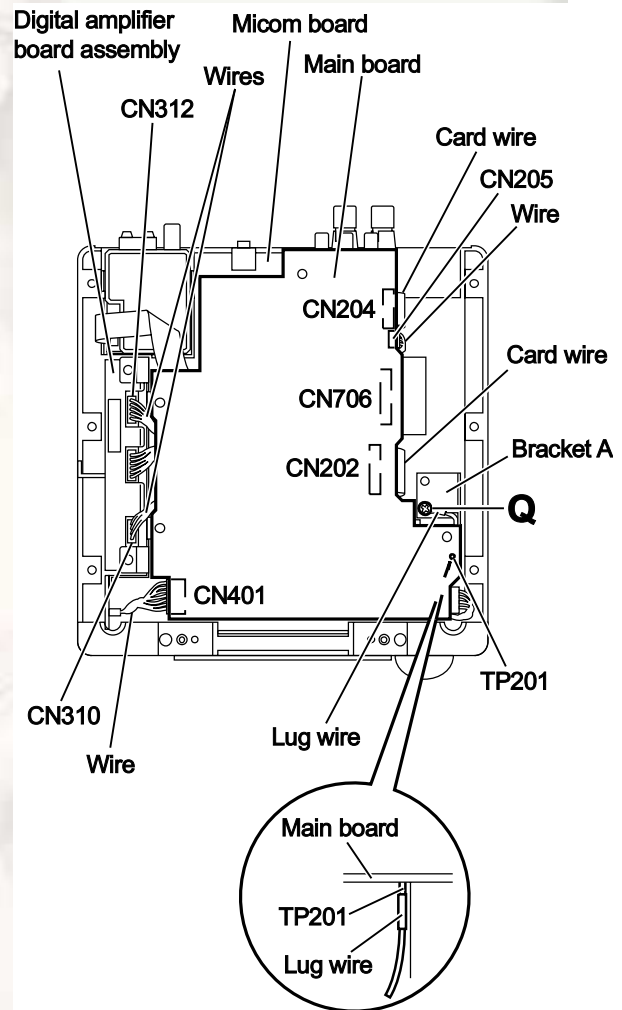

Fig.14
3.1.8 Removing the main board (See Figs.14 and 15)
- From the top side of the main body, disconnect the card wires from the connectors (CN202 and CN204) on the main board. (See Fig.14.)
- Disconnect the wires from the connectors (CN205 and CN401) on the main board. (See Fig.14.)
- Disconnect the wire from the connector CN706 on the micom board. (See Fig.14.)
- Disconnect the wires from the connectors (CN310 and CN312) on the digital amplifier board assembly. (See Fig.14.)
- Remove the screw **Q** attaching the lug wire to the bracket A. (See Fig.14.)
- Disconnect the lug wire from TP201 on the main board. (See Fig.14.)